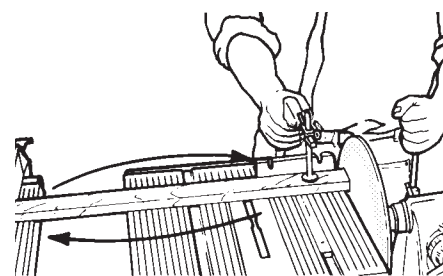

Figure D-20
3. Squeeze the safety grip with one hand, then turn on and adjust the Mark 7 speed. Feed the disc forward with the quill until it just contacts the stock. Back it off, then advance it again. Don't extend the quill all the way at this time, just sand until the end is smooth. Then, turn the stock and sand the other end. This time, advance the disc until the depth control stops it. See Figure D-20. Repeat this procedure as needed with the other boards you need to sand. When finished, they will all be exactly the same length.